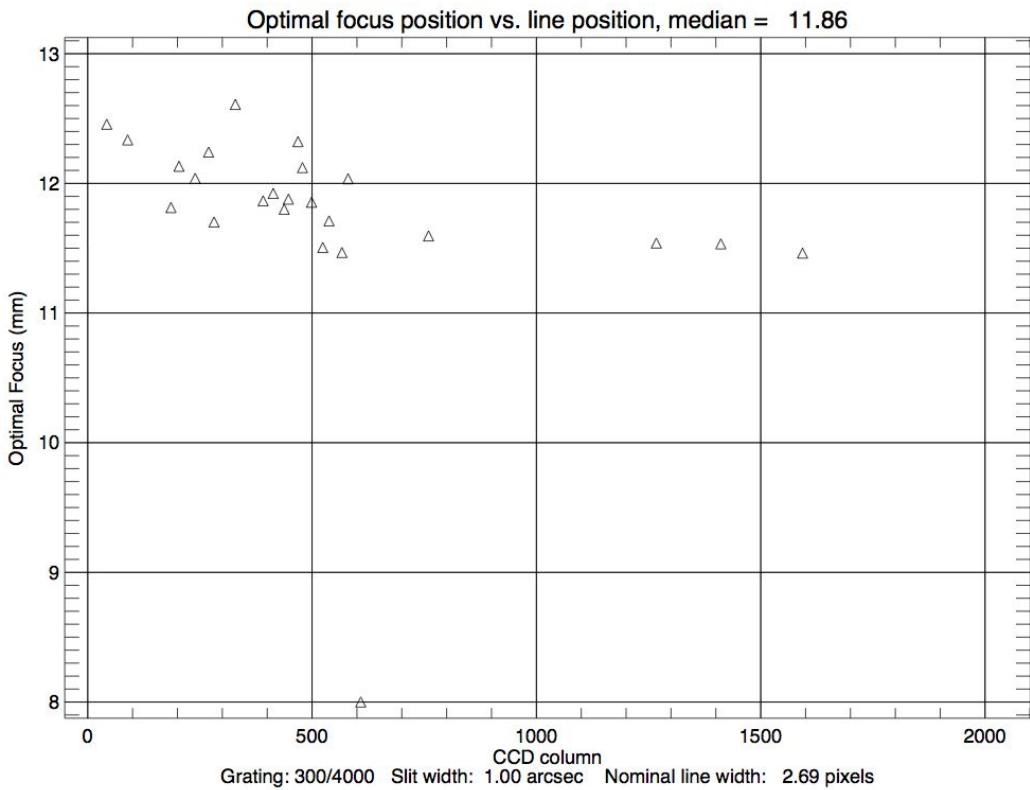

Figure 8. Example optimal focus vs. line position curve for the 300 g/mm grating. The median value is 11.9 mm.
6. Update the telemetry. This is done by moving one part of the instrument (e.g. changing the slit width, the grating tilt or the collimator focus) and/or entering a grating identification. Items 4 and 5 marked in red in Figure 8.
- g. In this directory start IDL and run ‘dfocus’: IDL> dfocus. In about 15 s a window will appear that shows the distribution of nominal focus vs. column (see Figure 8), and the median value is printed in the title. If the result looks good (fairly flat distribution, often higher at the left), set the collimator focus to the median value. (A full output of the focus analysis is saved in the file ‘deveny.xx.xx.ps’ file in the focus directory, where one can examine the focus curves in detail to see if the range needs to be extended).